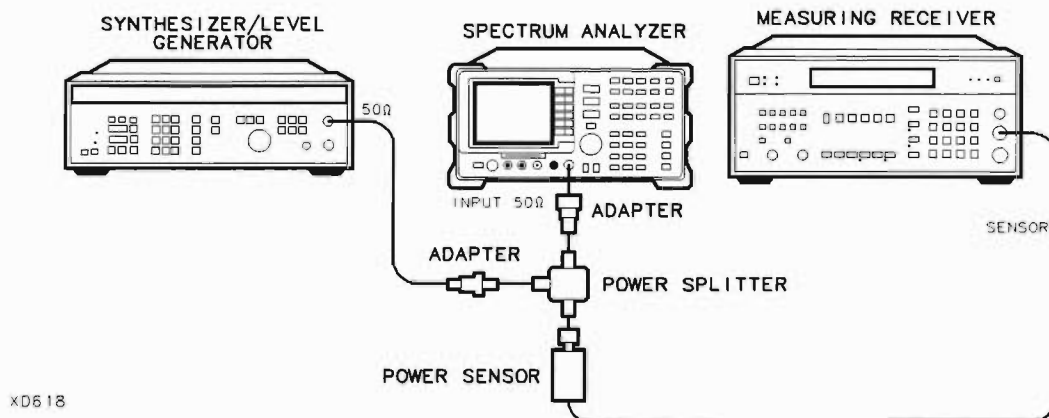

Figure 2-31. Frequency Response Test Setup, <50 MHz
49. Connect the equipment as shown if Figure 2-31, with the power sensor connected to power splitter.